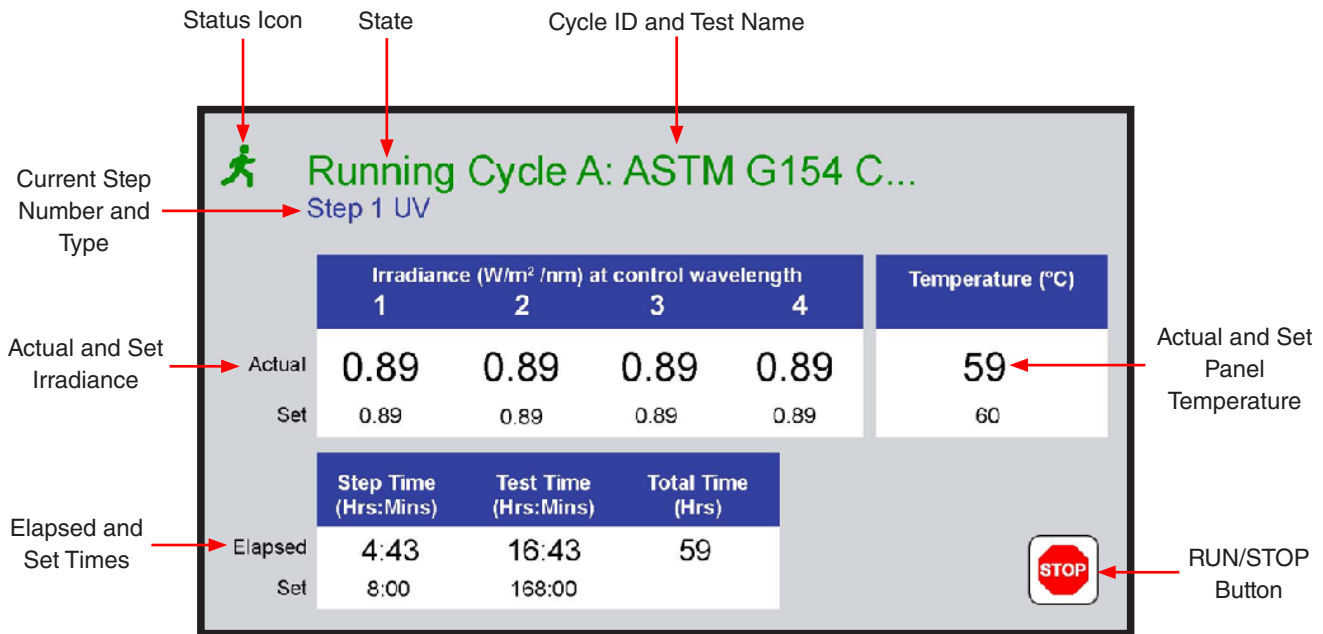

Figure 9.2a: Status screen components.
- The Status Screen (Figure 9.2a) displays: